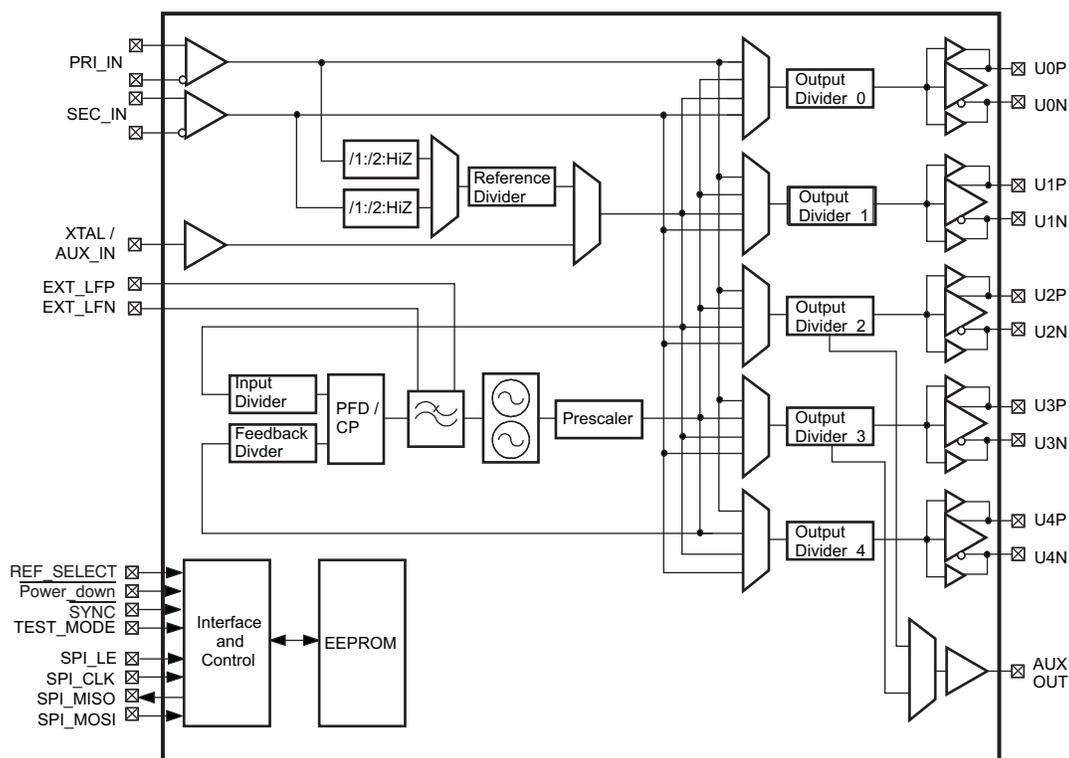

Figure 1. CDCE62005 Block Diagram
The CDCE62005 is characterized for operation from 3.0 V to 3.6 V and from -40°C to $+85^{\circ}\text{C}$. Figure 1 shows the block diagram for the CDCE62005.
As seen in Figure 1, the CDCE62005 has internal dividers, twin onboard VCOs, a phase frequency detector, charge pump, partially internal loop filter, and LVPECL/LVDS/LVCMOS input and output buffers, all of which completes a PLL. Through the PLL operation, the VCO clock synchronizes with the reference clock input and ultimately with all clock outputs. All outputs are completely synchronized in terms of phase and frequency with the reference clock input. When powering up from the EEPROM, the SYNC signal synchronizes outputs after device power-up.
Step 1. From Figure 1, it can be inferred that the relationship between the output frequency and the input frequency is described by these equations: